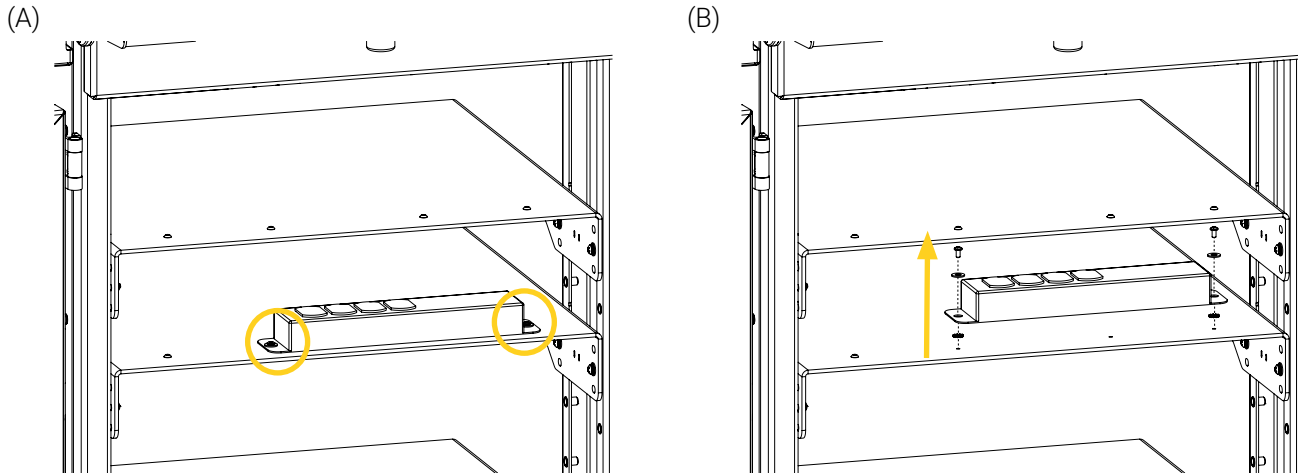

Figure 1: Removing the power bar and current hardware
1. Locate and remove the power bar using a Phillips-head screwdriver #2 (Figure 1), then set the power bar aside temporarily. The hardware will **not** be reused. Refer to your established internal protocols and the environmental laws that apply to your jurisdiction for the proper disposal of the part.